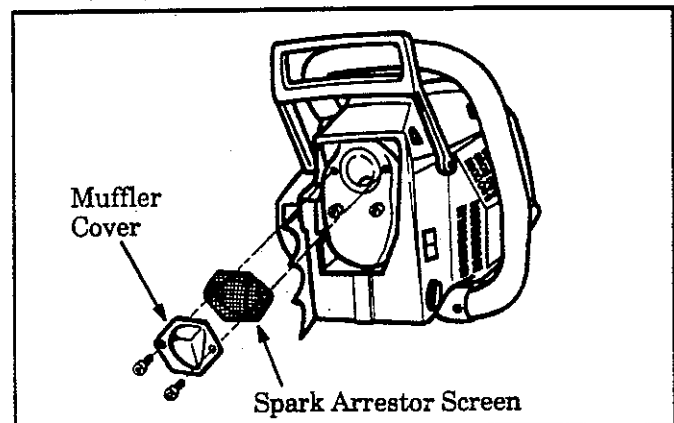

Figure 31
2. Remove the muffler cover. Figure 31.